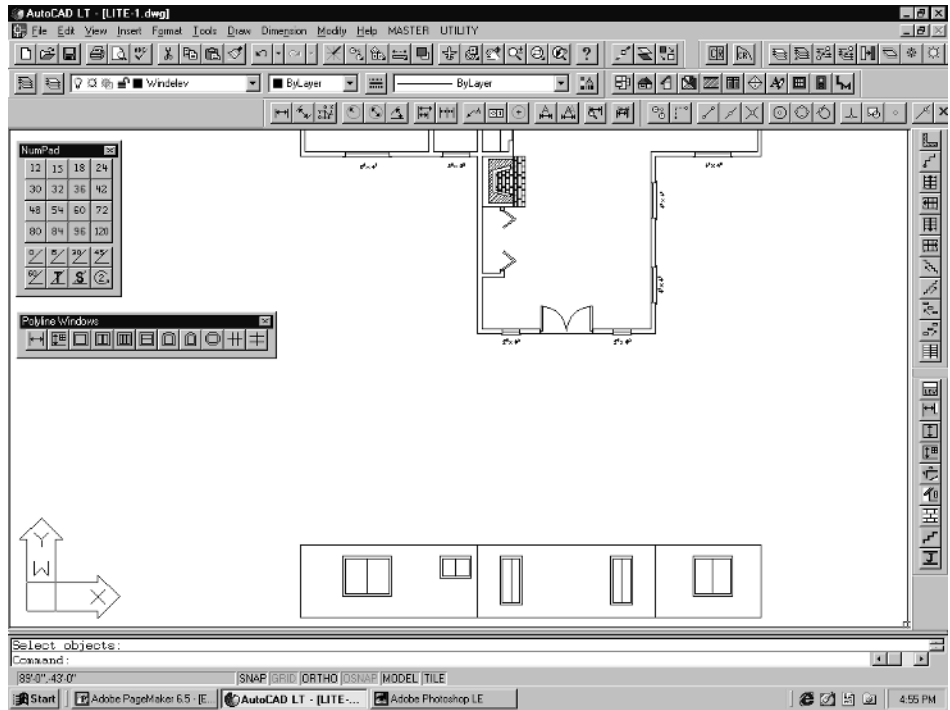

Figure 6-69
5. Go ahead and select the next type of window and finish the windows for this elevation, as shown in Figure 6-69.